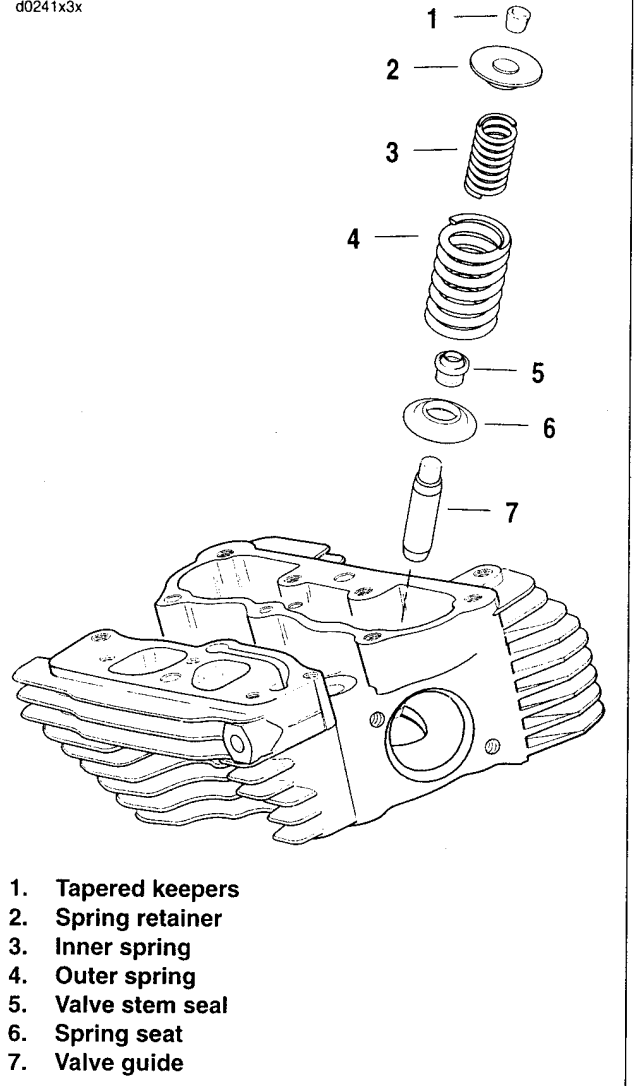

Figure 3-107. Valve Assembly
14. See Figure 3-107. Apply a liberal amount of assembly lube to valve stem tip and keeper groove (1).
15. Install the inner (3) and outer (4) valve springs over the valve guide (7). Fit the spring retainer (2) on top of the inner and outer valves springs. Like the spring seat, the smaller diameter flange fits inside the inner valve spring. The larger diameter flange separates the inner and outer springs.